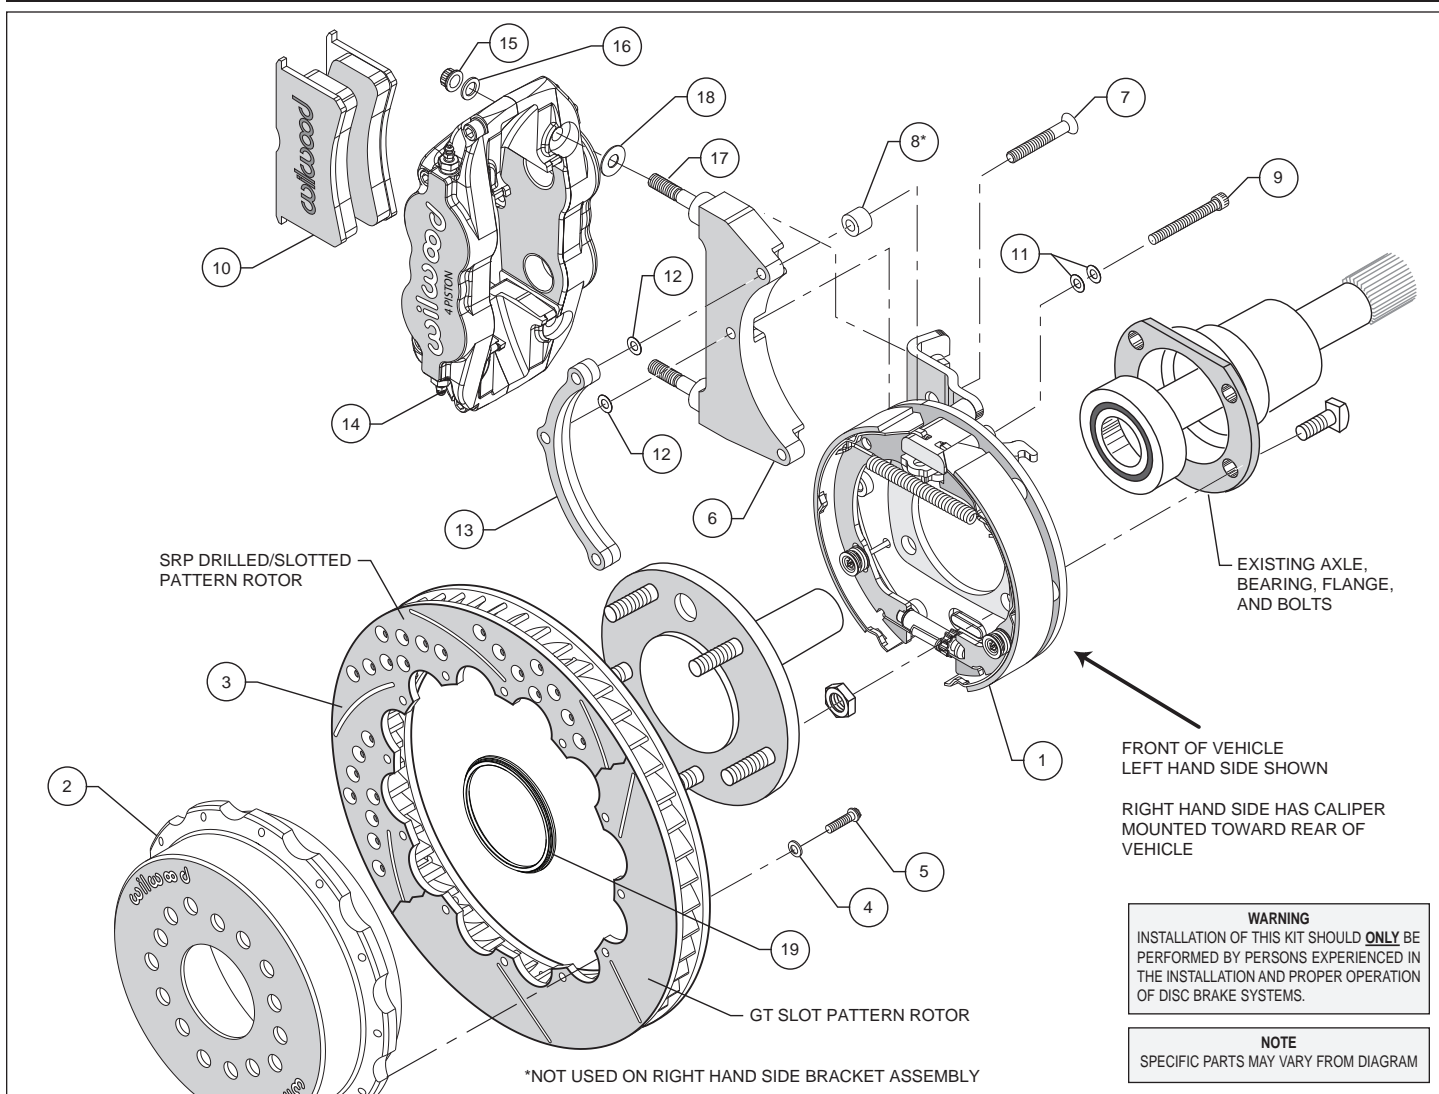

Figure 1. Typical Installation Configuration
- Slide the rotor registration adapter (19) onto the axle register on the axle flange with the smaller O.D. facing toward the rotor/hat (2). Align the correct hole pattern in the hat with the stud pattern on the axle flange. **NOTE:** Some OEM and aftermarket axles come with stud sizes larger than 0.50" diameter. Verify stud size and have a qualified machine shop drill the hats to the correct size, if necessary. Slide the hat/rotor assembly (2 and 3) over the wheel studs covering the bracket kit assembly (1) and against the axle flange face. Check to be sure the hat seats squarely against the hub. The hub must be free from any rust, debris, casting burrs, machining irregularities, etc. Install a couple of lug nuts (finger tighten) to keep the rotor/hat assembly in place while continuing with the installation.
- **NOTE:** Please reference the caution statement at the beginning of the assembly instructions. The caliper mounting bracket assembly (6) should be installed first with clean, dry threads on the mounting bolts (7 and 9). Install the left hand side bracket from the front side of the bracket kit assembly (1) between the bracket kit assembly backing plate and the attached bracket on the assembly by sliding top bolt (7) through attached bracket, through spacer (8), spacer not required on right hand side assembly, placed between the attached bracket and the caliper mounting bracket (6), and through caliper bracket (6). Place two shim washers (12) between caliper mounting bracket (6) and spacer (13) and screw the bolt (7) into the bracket kit (1) backing plate. **NOTE:** The spacer (8) is only used with the top mounting bolt. Slide the middle and bottom bolts (9) through two flat washers (11), bracket (6), two shim washers (12), and finally through the spacer (13), see figure 1. **NOTE:** End of bolts should not exceed inside face of insert. The bracket must tighten squarely against the back side of the bracket kit assembly (1). Use two shim washers (12) between the bracket (6) and spacer (13) during initial trial fitting.
- The right hand side caliper mounting bracket assembly (6) not shown is installed first with clean, dry threads on the three mounting bolts (9). Install the bracket from the rear side of the bracket kit assembly (1) by sliding bolts (9) through lock washer (10), flat washer (11), bracket (6), shim washer (12) and finally through the spacer (13), see Figure 1. **NOTE:** End of bolt should not exceed inside face of insert. The bracket must tighten squarely against the back side of the bracket kit assembly (1). Inspect for interference from casting irregularities, machining ridges, burrs, etc. Use one thin shim (10) between the bracket (6) and spacer (11) during initial trial fitting.
- Lubricate caliper mounting studs (17) and nuts (15) with lightweight oil. Install two shims (18) over each pre-installed stud (17) on the radial mount bracket (6). Slide the caliper (14) in place over the studs and rotor (3), then install the washer (16) and lock nut (15) to hold the caliper in place. Snug the lock nuts (15) and check that the rotor (3) is centered in the caliper (14). Add or subtract .015" shims (12) as necessary between the caliper mounting bracket (6) and the spacer (13) to center the caliper (14) being sure to use the same number of shims in all three locations.
- Remove the caliper center bridge pad retainer bolt, nut, and tube from the caliper. Slide the brake pads (10) into place. They should install easily without interference. Check that the outside radius of the brake pad is flush with the outside diameter of the rotor face. Add or subtract shims (18) between the caliper (14) and mount bracket (6) to gain the proper alignment. Reinstall the center bridge pad retainer tube, bolt, and locknut. The locknut should be snug without play in the bolt or tube. Be cautious not to over tighten.
- Adjust the parking brake shoes outward (using a drum shoe adjustment tool available at your local auto parts store) while spinning the hat (2) until a slight drag is felt against the hat/drum. Remove the lug nuts that were holding the hat/rotor in place. Install the wheel and lug nuts. Check to see that the wheel rotates freely without interference.
- Once all clearances have been checked, remove the wheel, caliper, hat/rotor from the bracket kit assembly (1). Secure the caliper mounting bracket (6) to the bracket kit assembly (1) using red *Loctite*[®] 271. Torque bolts (7 and 9) to 180 in-lb. Reinstall the hat/rotor assembly and again use lug nuts to hold it in place. Reinstall the caliper, torque the caliper nuts (15) to 30 ft-lb.
- **NOTE:** Clevis and cable kits which attach to the parking brake assembly are not included in the Wilwood parking brake kit. Wilwood offers a generic style parking brake cable kit, P/N 330-9371 for this application which can be ordered separately from your local Wilwood dealer or by calling Wilwood customer service at (805) 388-1188.